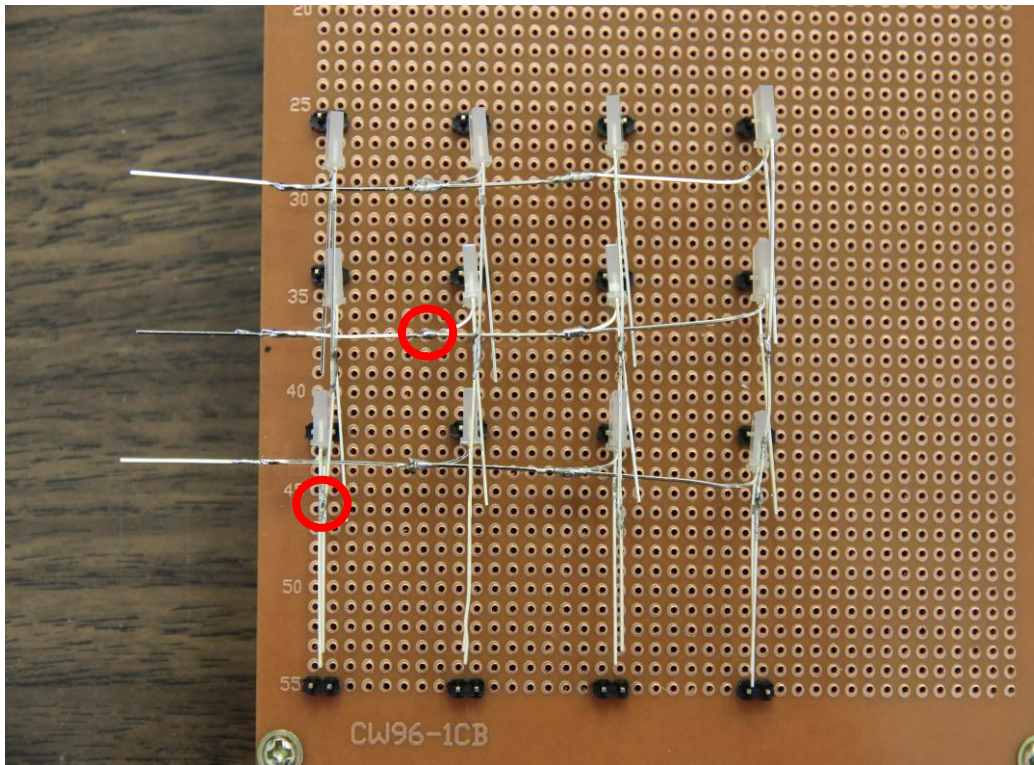

Figure 2: The soldering of the LED pins (middle to middle – outers to outers)
4. Continue by soldering the outer pins of each LED to the outer pin of the LED directly below it. Once finished, you should get a somehow solid structure just like the one in Figure 2 on the next page. Notice that the middle pins are connected and that the outer pins on the first side are also soldered together.